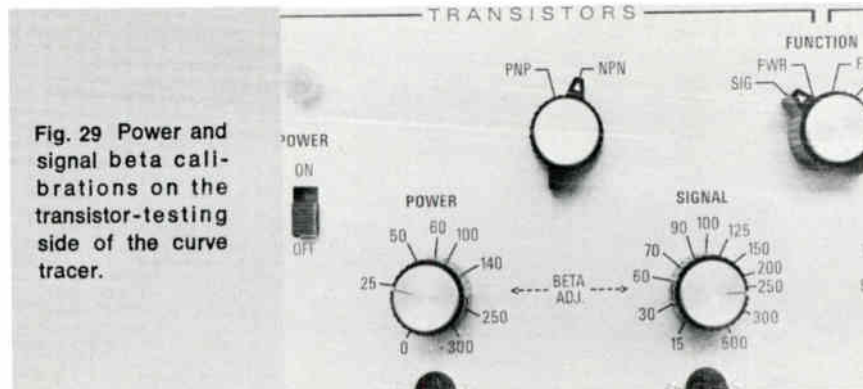

Fig. 29 Power and signal beta calibrations on the transistor-testing side of the curve tracer.
- Measure the DC beta by turning either the POWER or SIGNAL beta knob (according to which type was selected by the FUNCTION switch) until the total height of the pattern (meaning all curves) is 8 divisions, as shown in Fig. 28. Use centering controls as needed. Read the beta from the dial calibration, as shown in Fig. 29.